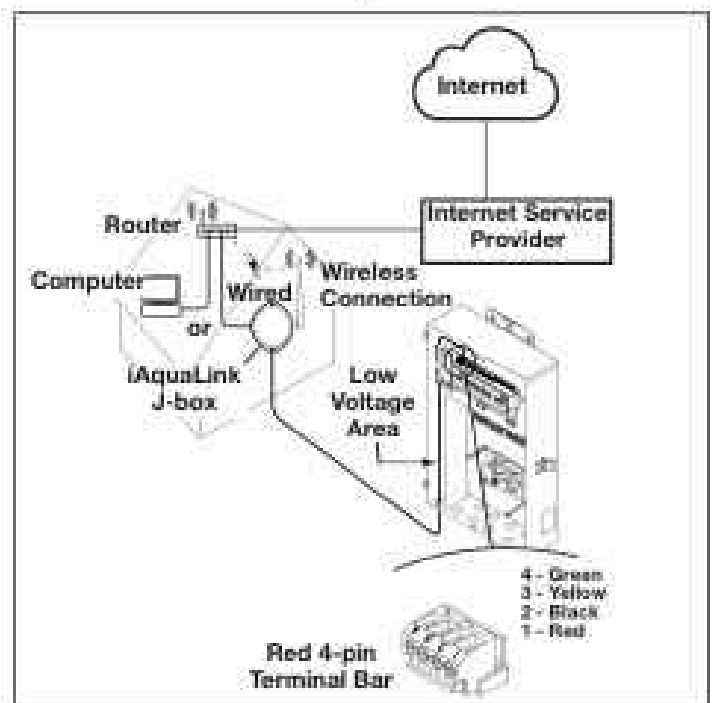

Figure 31. iAquaLink J-Box Indoor Installation
2. Mount the outdoor iAquaLink J-box at least six (6) feet (1.8 m) above the ground, at least ten (10) feet (3 m) from any motor or air blowers that may be in the vicinity, and at least five (5) feet (1.5 m) away from other transceiver J-boxes. See Figure 31.
5. Pull cable through the knockout and into the low voltage area. See Figure 31.
7. Strip each wire ¼" (6 mm) and connect to the red, wire connector on the power center PCB. A multiplex kit (P/N 6584) may be required if there are more than two (2) cables running to a red, wire connector on the power center PCB.